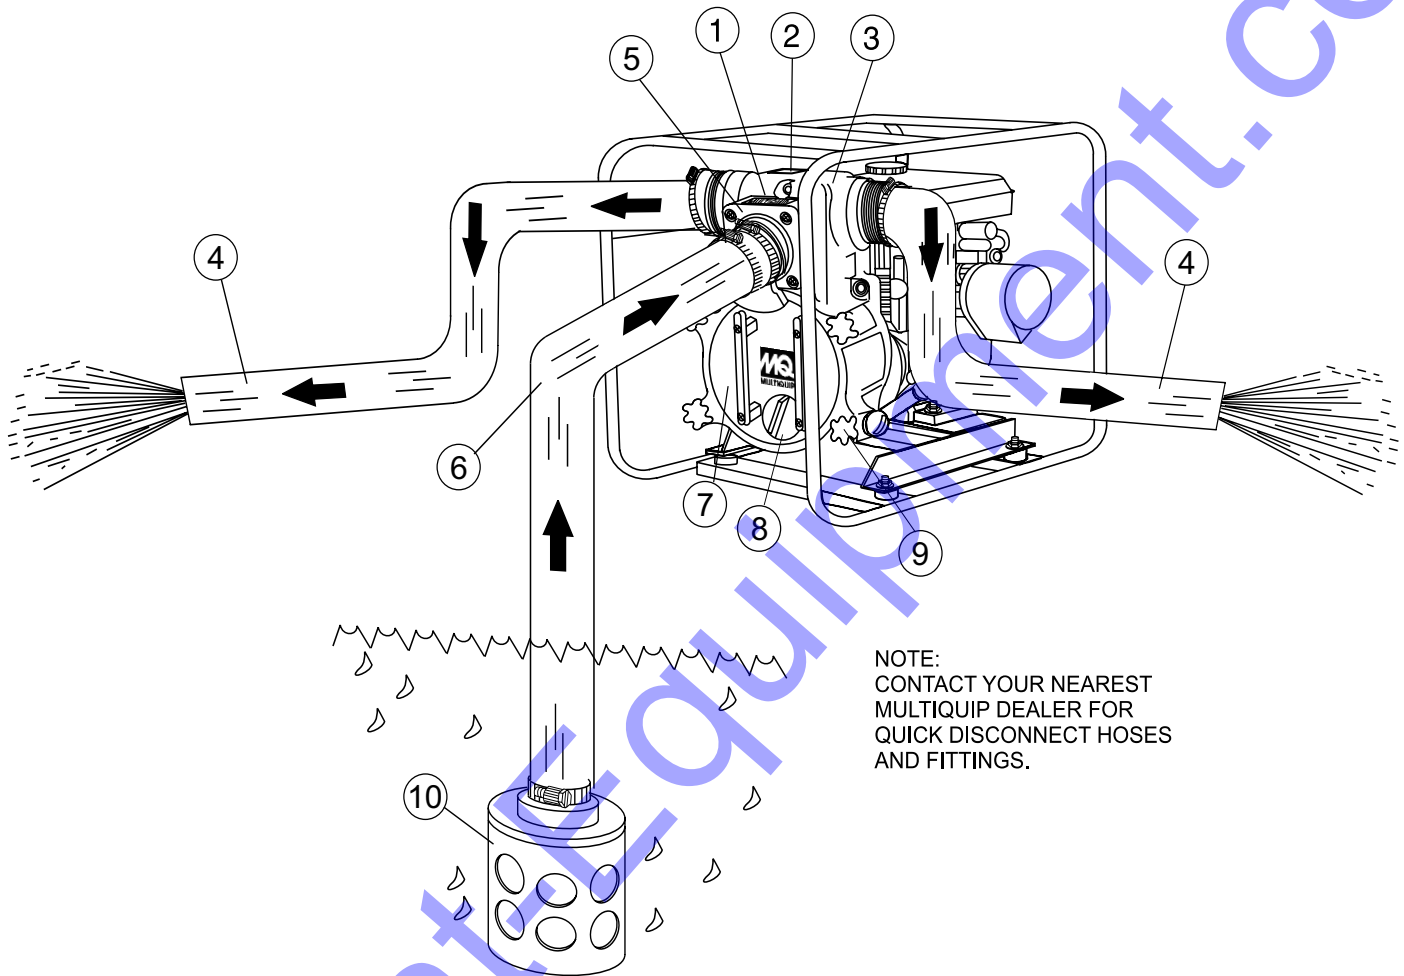

Figure 3. QP2TH Pump Application
Figure 3 shows key component areas of the QP2TH.
3. Initially prime the pump by removing the fill cap (see Figure 3) and filling the casing with water. If the pump casing is not filled with water prior to operations, it will not be able to start the pumping process and you risk overheating the mechanical seal assembly.